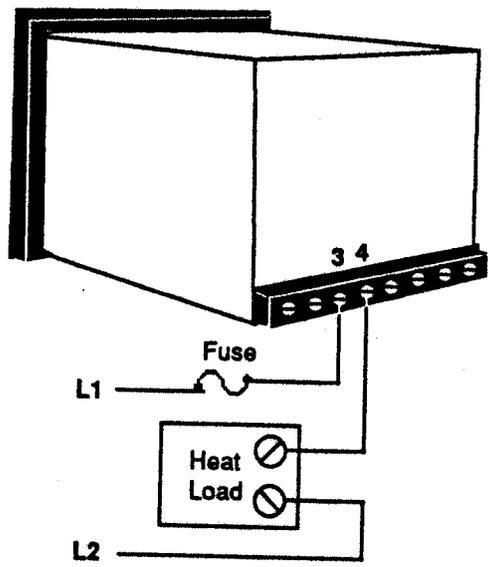

Figure 9 - Time Proportioning or ON/OFF Output Wiring (360A-[5, 6]XXX-X000)
Refer to Table 1 for the values that apply to your unit's range code. Refer to Figure 9 below for potentiometer locations.
2. Connect the DVM to Test connector J13, Pin 1 (-), 3 (+) for Limit or ON/OFF units. If you have a Time Proportioning unit, connect the DVM to the bottom side of R26 (+), and the bottom side of VR1 (-). See Figure 9 on the next page for more details.